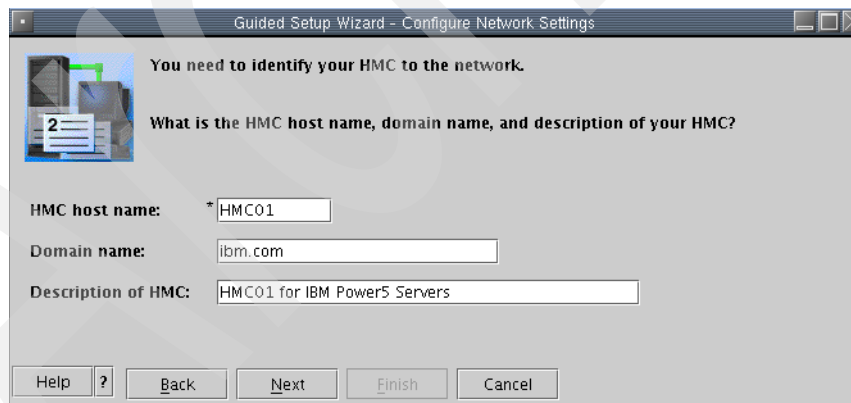

Figure 4-11 Guided Setup wizard - Configure network settings
11. The Guided Setup Wizard - Configure Network Settings panel appears as shown in Figure 4-11. In our example we show how to configure the HMC for both a private network and an open network. We use the first ethernet network card (eth0) in the HMC for the private network configuration, and the second ethernet card (eth1) to connect to our open network.